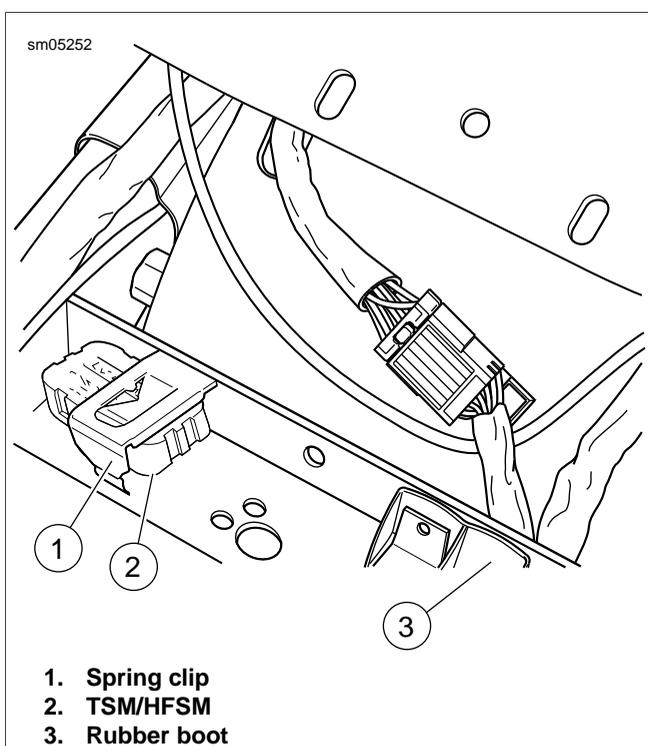

Figure 8-58. Frame Crossmember (Under Seat)
2. Depress tab at front of spring clip and lift to release index pins from holes in frame crossmember. See Figure 8-58.